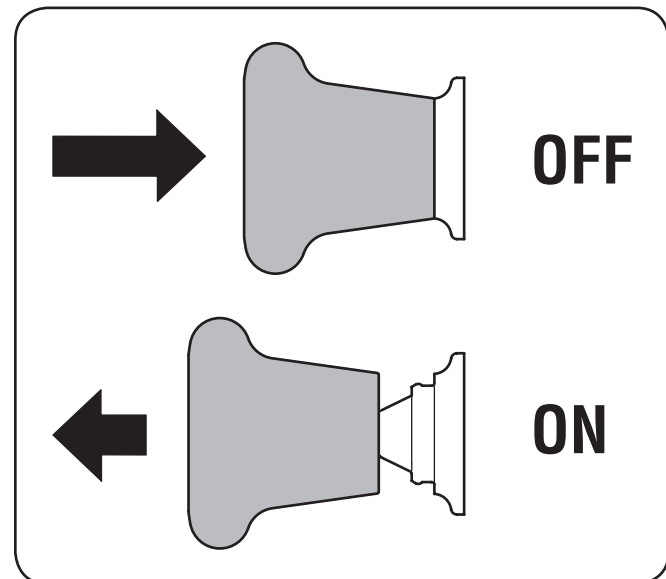

Figure 13
2. Pull the PTO switch up/out into the engaged (ON) position. See Figure 13.